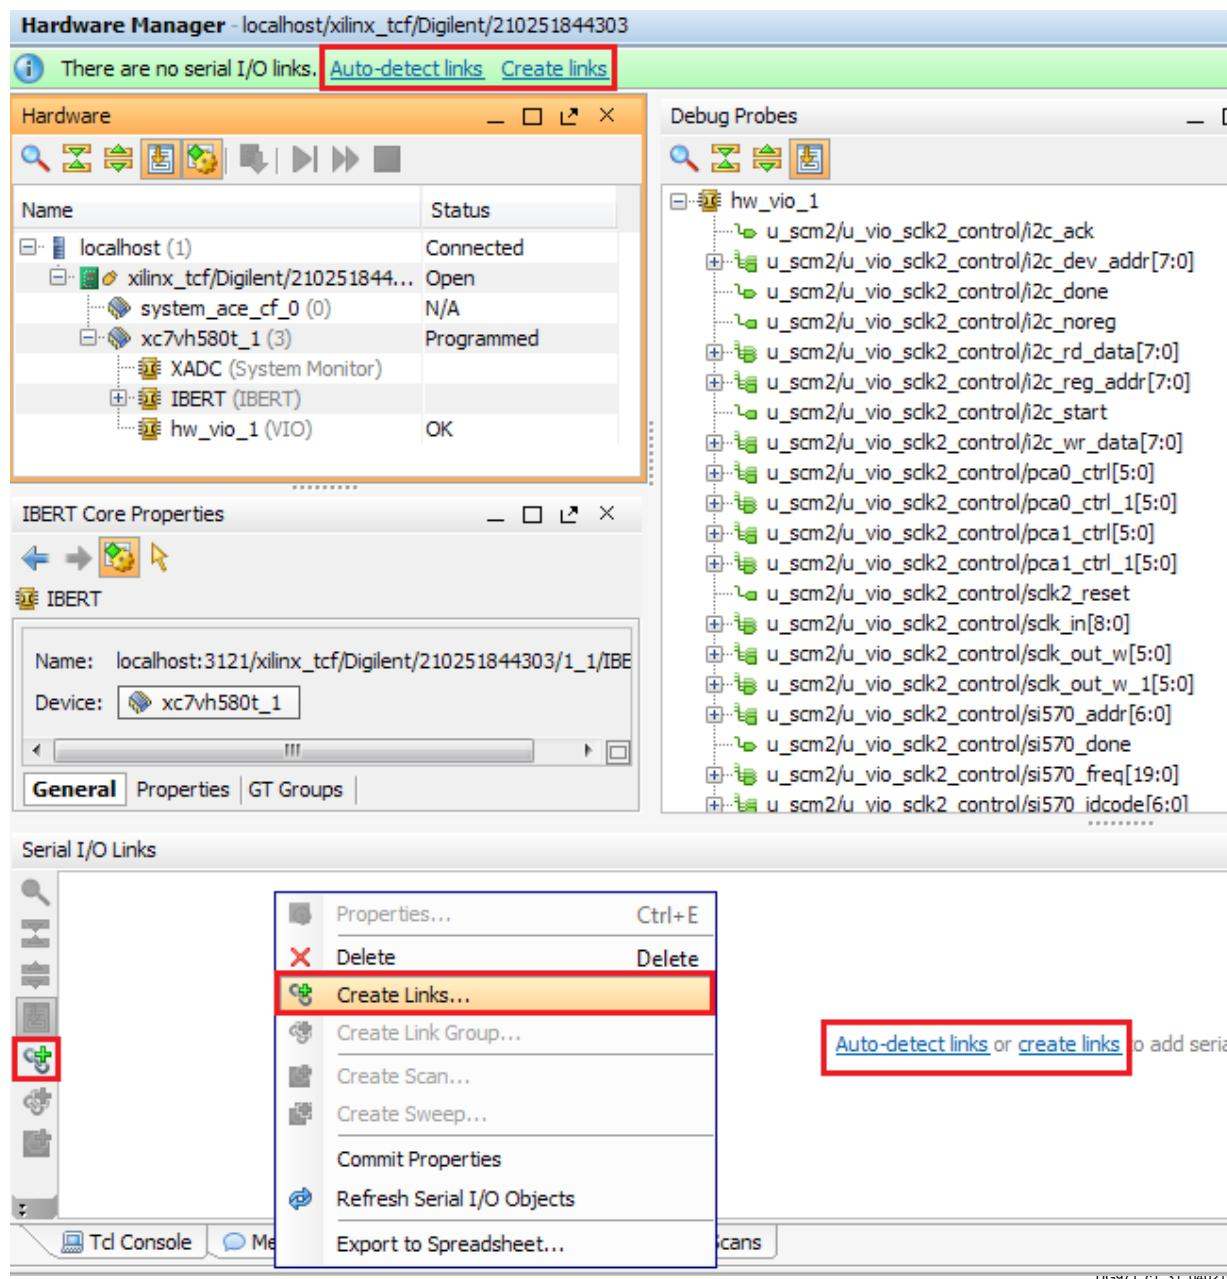

Figure 1-31: Serial I/O Analyzer - Create Links
5. To view the GTZ transceiver operation, click **Layout > Serial I/O Analyzer**. From the top of the Hardware Manager window, select **Auto-Detect Links** to display all available links automatically. Links can also be created manually in the Links window by right-clicking and selecting **Create Links**, or by clicking the **Create Links** button (Figure 1-31).